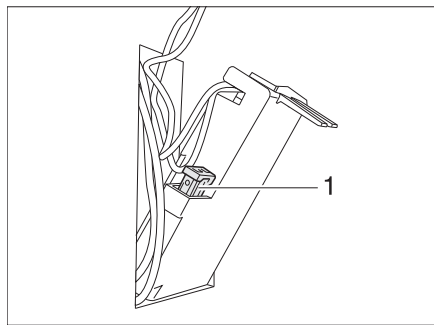

Fig. 241 Fuse for the Thetford toilet
- Replace the fuse (Fig. 241,1).